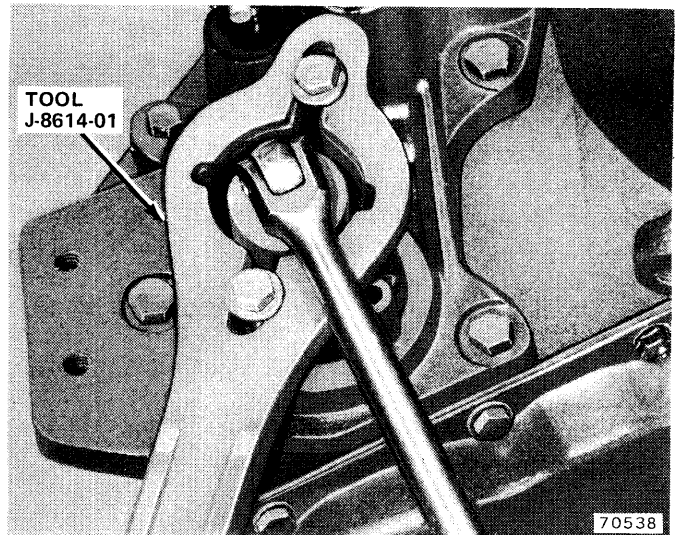

Fig. 10-2 Removing Pinion Nut
(1) Raise vehicle.
(2) Mark propeller shaft and yoke for assembly alignment reference and disconnect propeller shaft from yoke.
(3) Remove pinion nut and washer using socket and handle and Tool J-8614-01 (fig. 10-2).